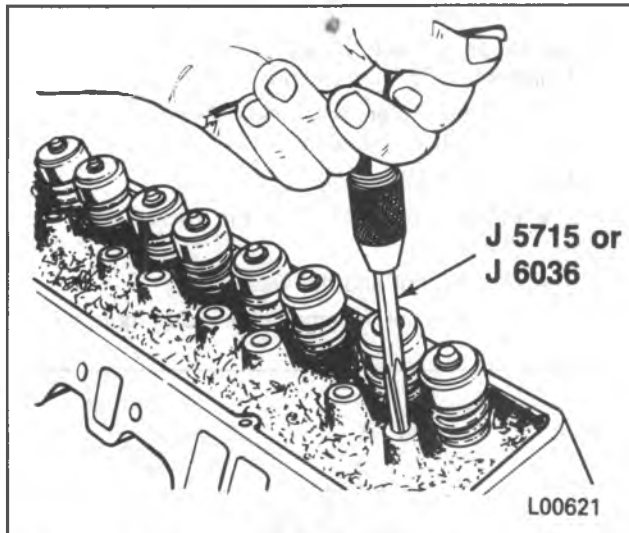

Figure 13 — Reaming the Rocker Arm Stud Bore
↔ Install or Connect (Figures 13 and 14)
- Ream the hole to the proper size for the replacement oversize rocker arm stud. Use J 5715 for 0.003-inch oversize studs; J 6036 for 0.013-inch oversize studs (figure 13).